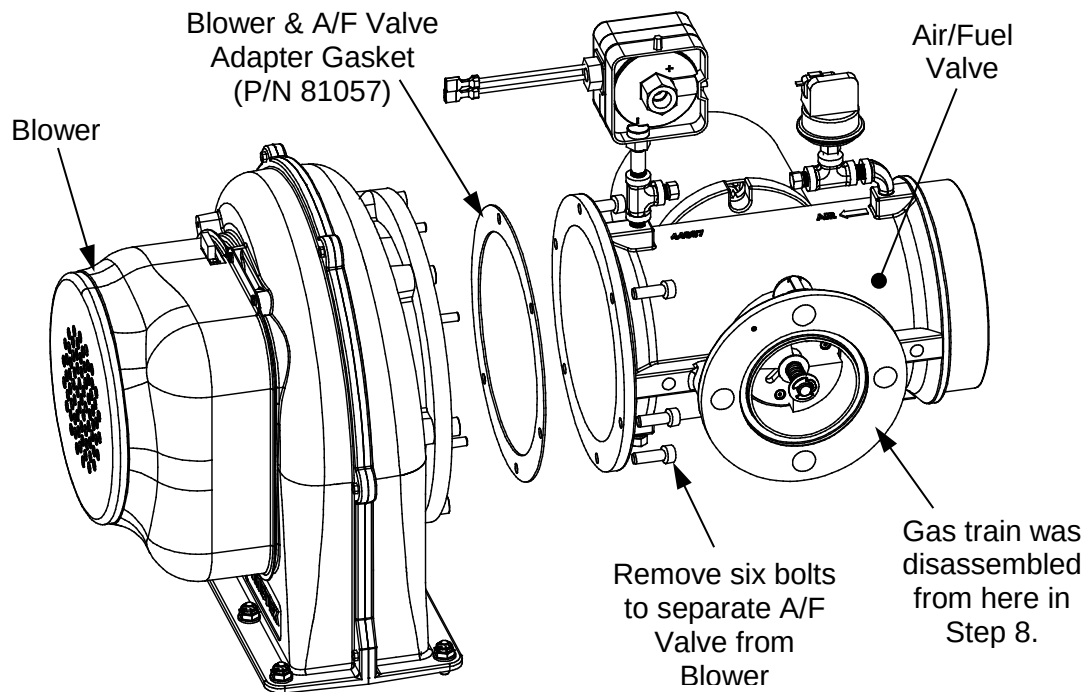

Figure 7: Exploded View of Blower & Air/Fuel Valve (BMK2.0LN)
There are some installations where it may be necessary to disassemble the Air/Fuel valve from the Blower to access the Burner. Note that there is a gasket (P/N 81057) located between the A/F Valve and Blower adapter, as shown in Figure 7. If you disassemble the Blower from the A/V Valve, check this gasket for damage and wear and retain for later reassembly. If replacement is necessary, contact AERCO technical support for assistance.
11. If it is necessary to separate the Blower from the A/F Valve, refer to Figure 7, and remove the 6 bolts from A/F Valve as shown. Retain the gasket (P/N 81057) for later reassembly.
2. Reassemble the Air/Fuel Valve to the Blower (if needed) per figure 7. Ensure that the Blower Gasket removed previously is included. Tighten each bolt in an alternating pattern to ensure a uniform seal between the Blower and the A/F Valve.